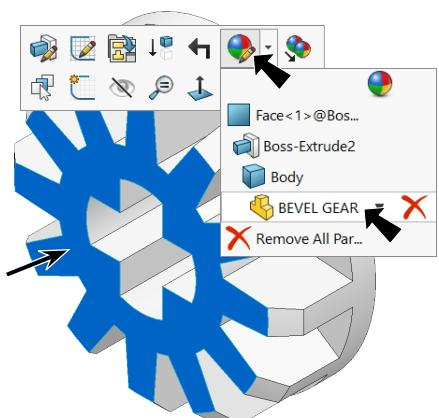

Fig. 35
- Step 1. Click part, click **Appearance Callout** on the context toolbar and click **BEVEL GEAR**, Fig. 35.